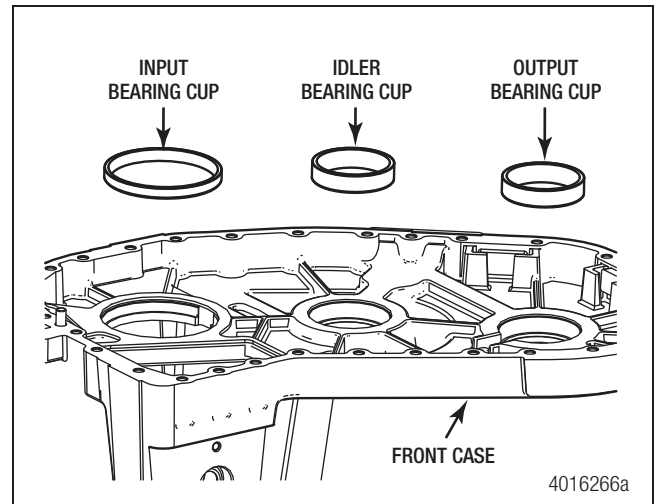

Figure 6.13
2. Use a two-jaw bearing cup puller and an impact hammer to remove the input, output and idler bearing cups from the bores inside the case half. Figure 6.13.